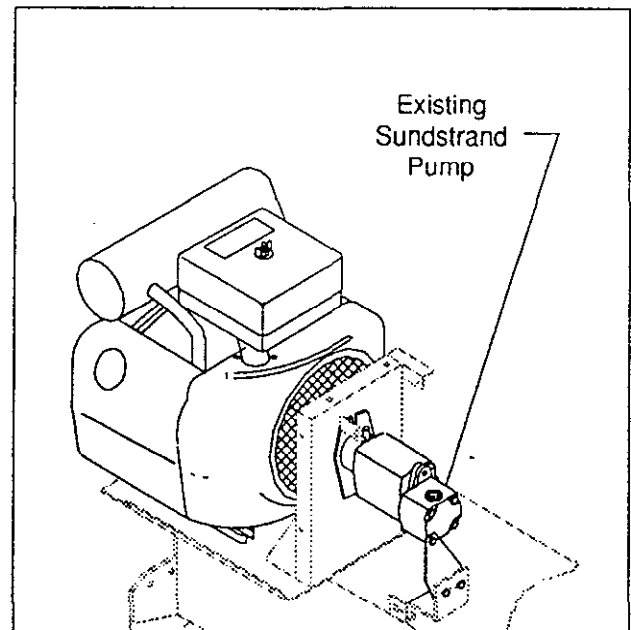

Figure 3
13. Remove the existing Sundstrand pump from the Cessna pump and replace with the new pump provided with the thatcher. See Fig. 3.